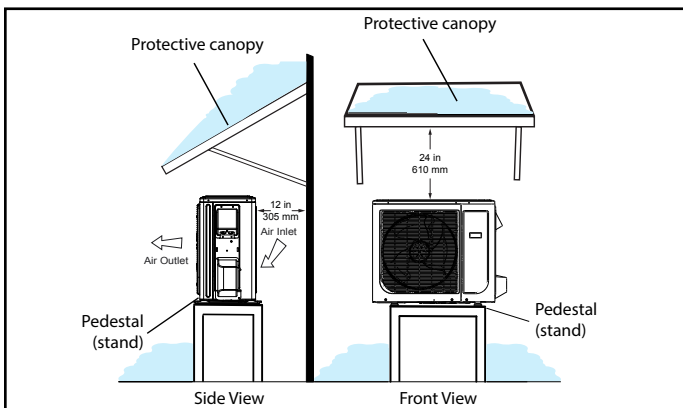
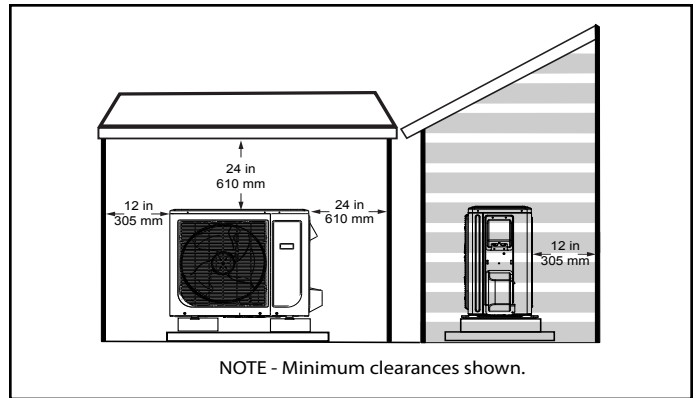

Figure 22. Outdoor Unit on Pedestal and Protective Canopy
Figure 23. Dog House-Style Shelter
- If the outdoor unit is subjected to prolong exposure to direct sunlight with temperatures over 100°F (38°C) a canopy is recommended as illustrated in Figure 22 or Figure 23.